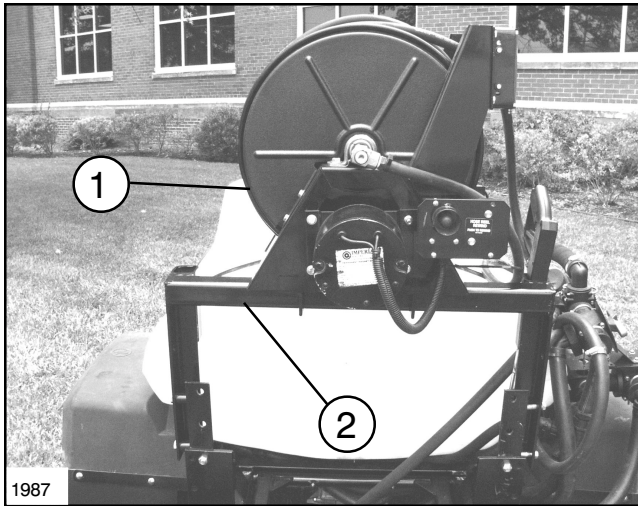

FIG. 3
6. Remove the upper right Bolt securing the Motor Mounting Plate to the Hose Reel Frame. Use a 5/16 x 1.0" Flange Head Bolt and Flange Nut to secure the electrical box assembly at this location. See FIG. 3.
7. Mount the Hose Reel Assembly onto the Hose Reel Mounting Bracket using the four (4) 5/16 x 1.0" Flange Head Bolts and Flange Nuts. See FIG. 3.